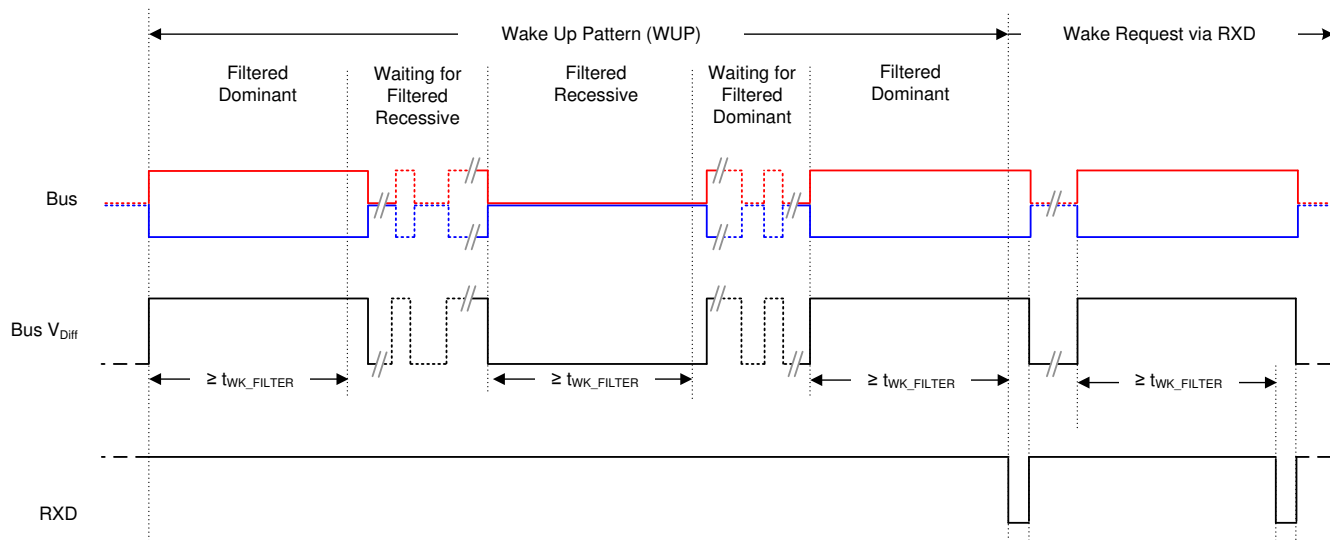

Figure 6-5. Wake Up Pattern (WUP) and Bus Wake via RXD Request (BWRR)
(1) Standby Mode RXD behavior: See Figure 6-5.
This is the low power mode of the device. The CAN driver and main receiver are turned off and bi-directional CAN communication is not possible. The low power receiver and bus monitor are enabled to allow for RXD Wake Requests via the CAN bus. A wake up request will be output to RXD (driven low) as shown in Figure 6-5. The local CAN protocol microprocessor should monitor RXD for transitions (high to low) and reactivate the device to normal mode based on the RXD Wake Request. The CAN bus pins are weakly pulled to GND during this mode, see Figure 6-4.
See Figure 6-5 for the timing diagram of the WUP. The pattern, t_{WK_FILTER} time used for the WUP and BWRR prevent noise and bus stuck dominant faults from causing false wake requests. If the device is switched to normal mode, or an under voltage event occurs on V_{CC} the BWRR will be lost.